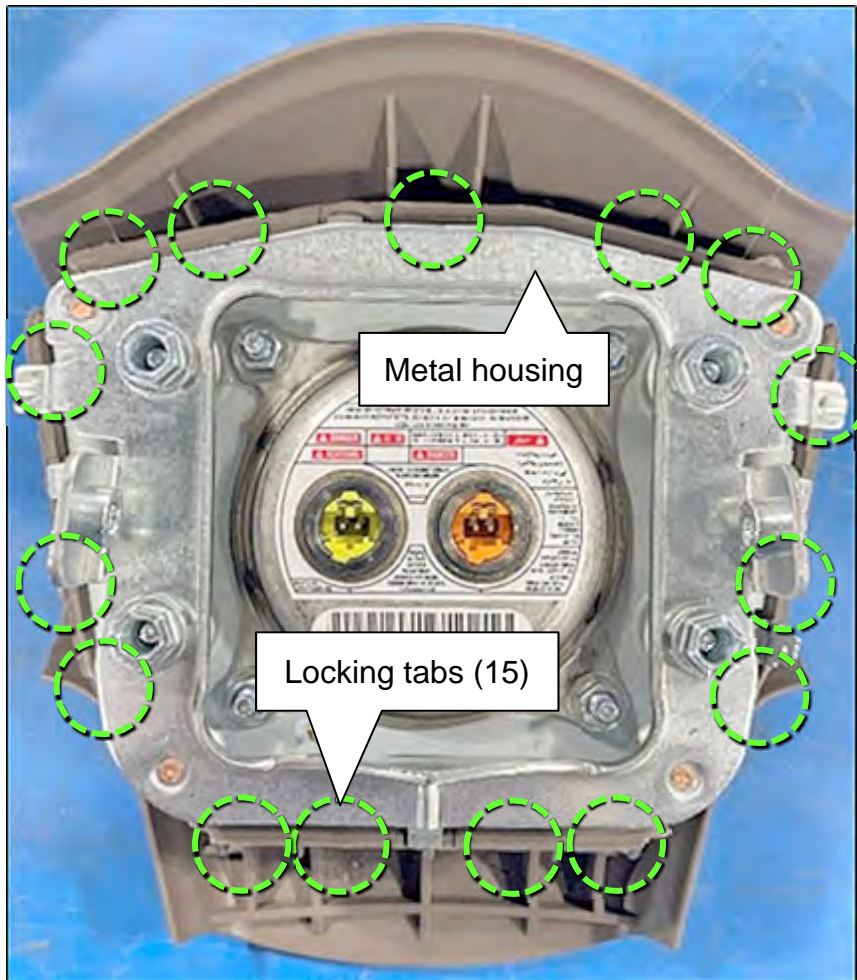
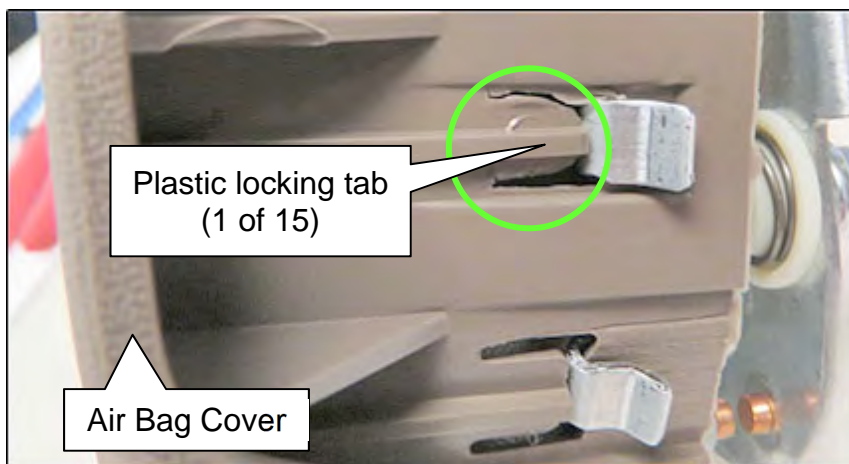

Figure 7
Figure 8
14. Locate the fifteen (15) plastic locking tabs (Figure 7 and Figure 8) that retain the Air Bag Cover to the metal housing.